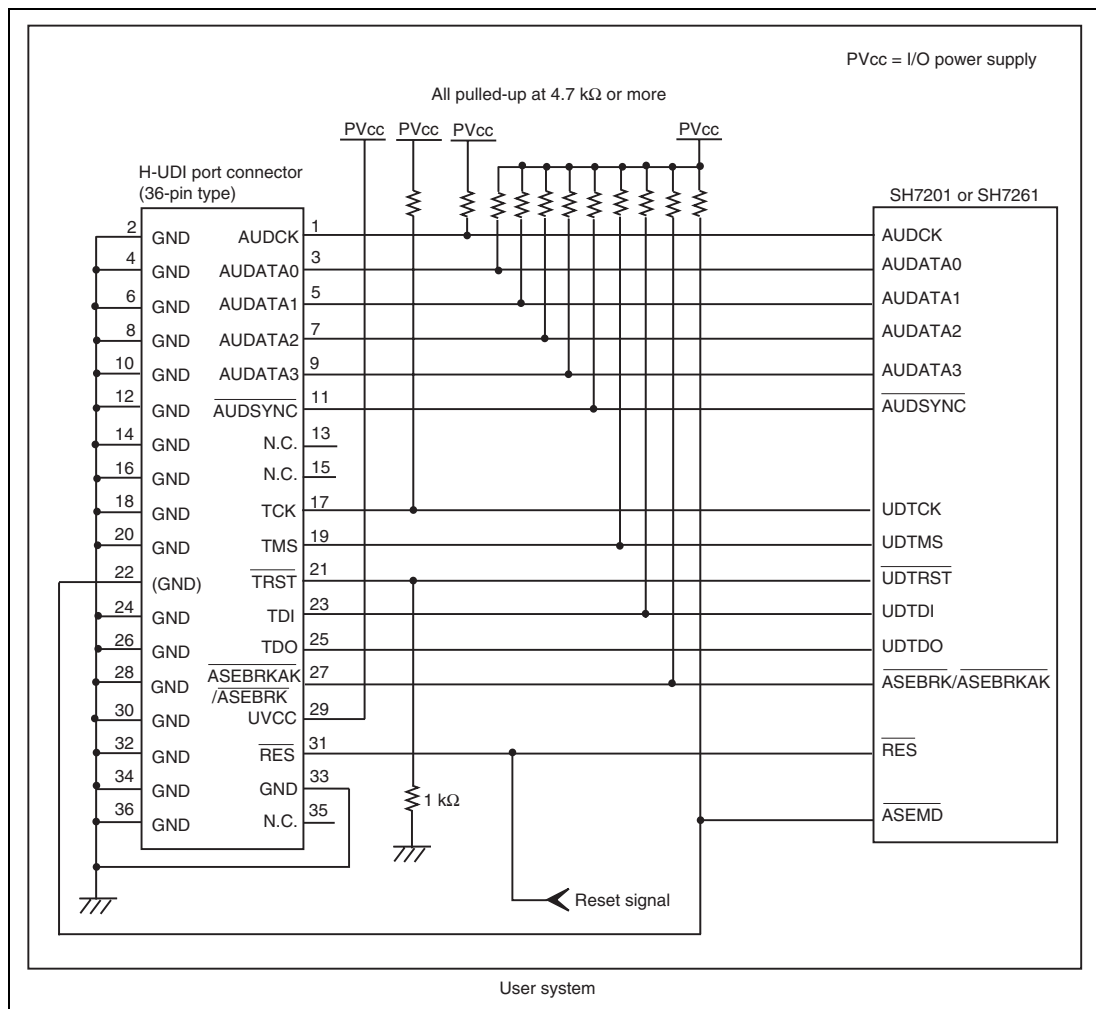

Figure 1.5 Recommended Circuit for Connection between the H-UDI Port Connector and MCU when the Emulator is in Use (36-Pin Type)
Figure 1.5 shows a recommended circuit for connection between the H-UDI and AUD port connectors (36 pins) and the MCU when the emulator is in use.
- (1) When the emulator is used: `_ASEMD` = 0
- (2) When the emulator is not used: `_ASEMD` = 1Figure 1.5 shows an example of circuits that allow the `_ASEMD` pin to be GND (0) whenever the emulator is connected by using the user system interface cable. When the `_ASEMD` pin is changed by switches, etc., ground pin 22. Do not connect this pin to the `_ASEMD` pin.
7. The resistance value shown in figure 1.5 is for reference.
When the circuit is connected as shown in figure 1.5, the switches of the emulator are set as SW2 = 1 and SW3 = 1. For details, refer to section 3.8, Setting the DIP Switches, in the SuperH™ Family E10A-USB Emulator User's Manual.